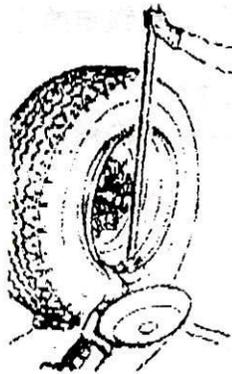

Fig2.3
- 3) Press the tire , move the tool arms outside little by little .Repeat this action , let the removing hook swing downward so that the removing hook can pull the edge of the tire(Fig2.3).